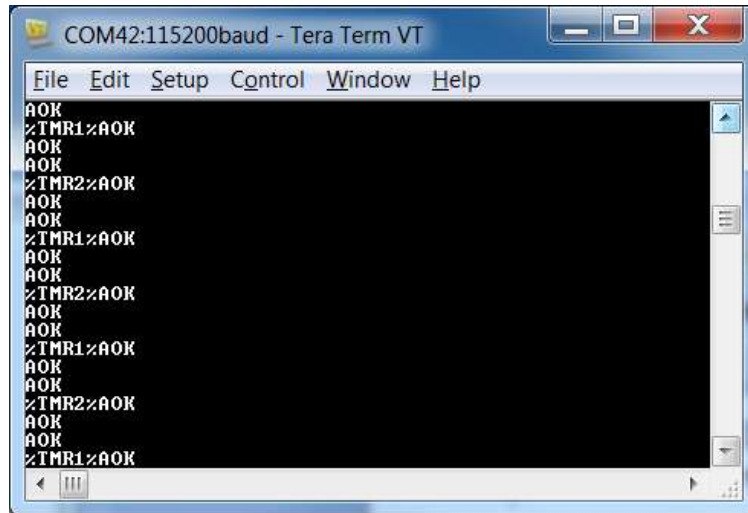

Figure 22: Sensor Script running
- f. Enter the “R,1” to reboot the RN4870. After the reboots the Sensor Board is now ready to use. The script event handlers can be seen scrolling on TeraTerm display as show below in Figure 22: